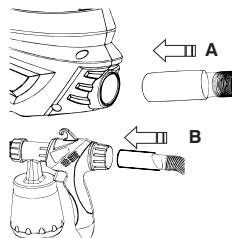

FIGURE 9.3
- For the model AIR PLUS SPRAY SCHULZ Split, mount the air hose (see Figure 9.3). Fit in the air hose firmly to the equipment connection and to the spray gun. The hose can be installed in the position you choose;